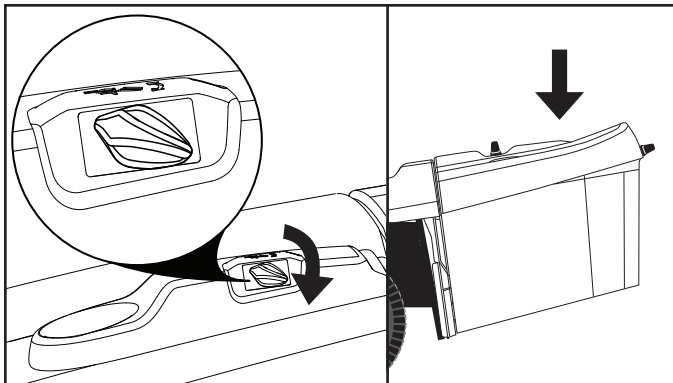

Fig. X2
- To lower the bagger, turn the electric dump switch clockwise. See Fig. X2.